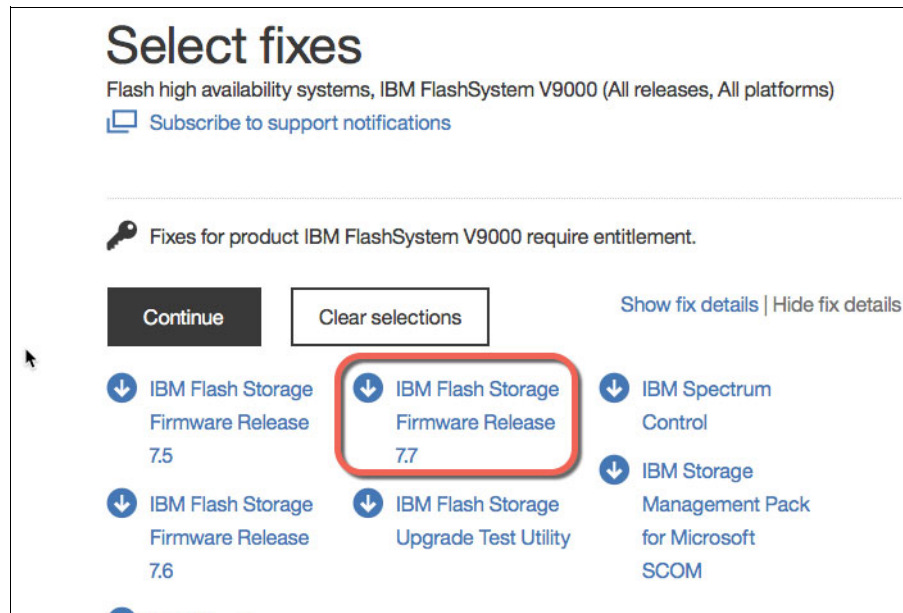

Figure 13-44 Select the Firmware Release family
- The Select fixes panel (Figure 13-44) provides a selection of release families. IBM FlashSystem V9000 Release 7.7 and later is required for IBM FlashSystem V9000 System using 9846/9848 model AC3 control enclosure and 12F, 24F expansion enclosures. IBM model 92F requires version 7.8.